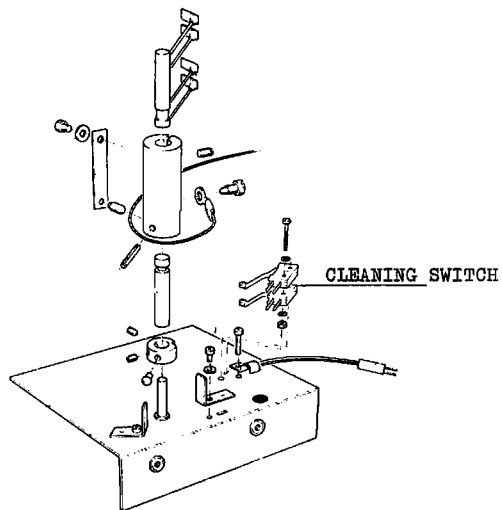

Fig 7-30
5.6 CLEANING SWITCH (fig 7-30)